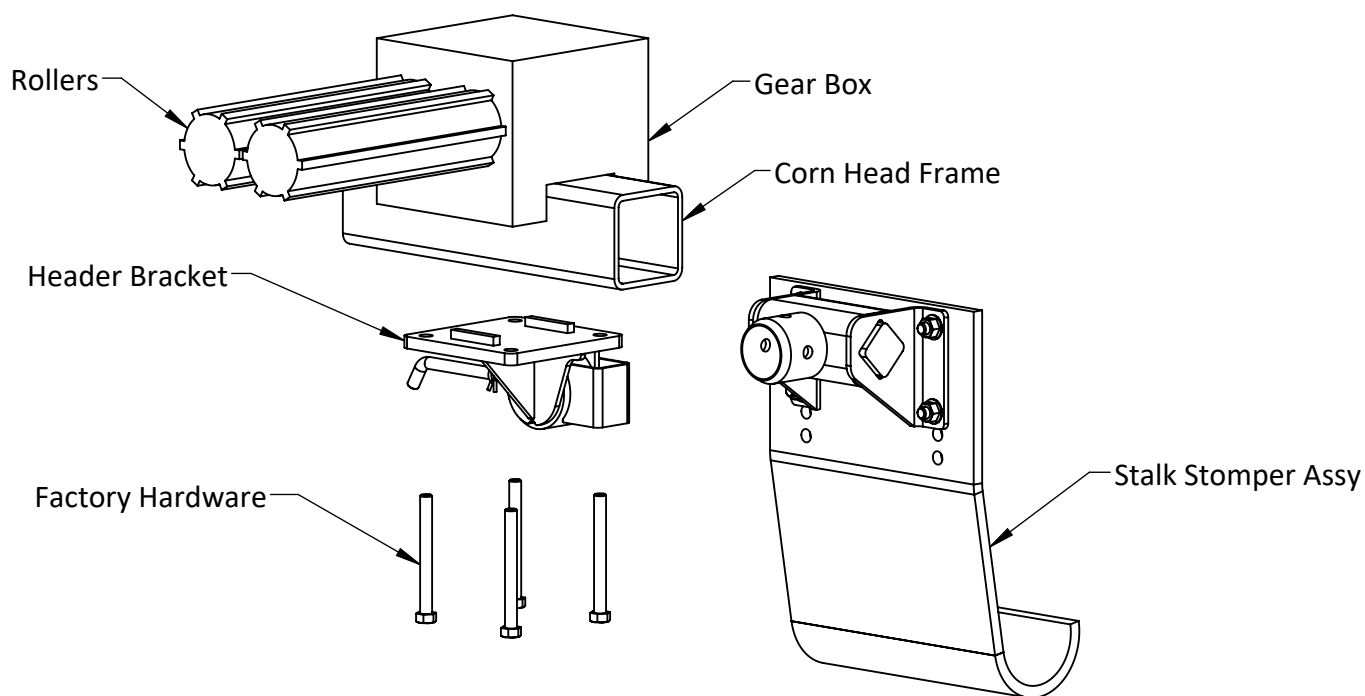
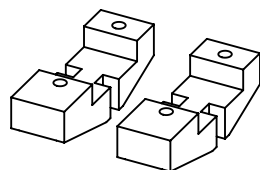

Figure 2
Figure 1
- Remove the factory gearbox support brackets (Fig. 1). Replace with Header Bracket (42353) positioning the mount plate as pictured below in Figure 2.